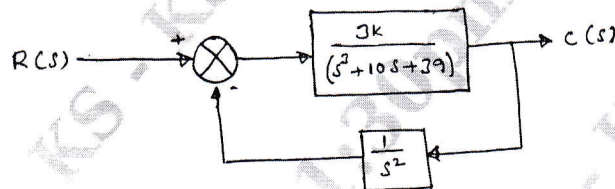

Fig.Q3(b)
b. Determine order and type for open and closed loop control system as shown in Fig.Q3(b).